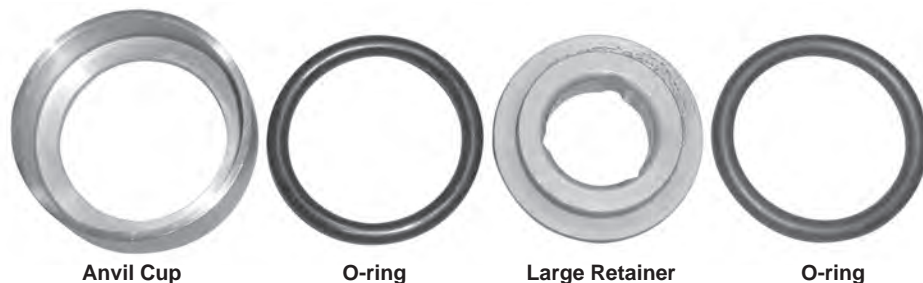

Fig. 16 - Insert O-ring into Anvil O-ring cup, then insert Large Retainer, followed by inserting the other O-ring.
Lubricate with grease and assemble the large retainer and the two (2) large retainer o-ring seals in the order shown in **Fig. 16** and assemble into the anvil o-ring cup.